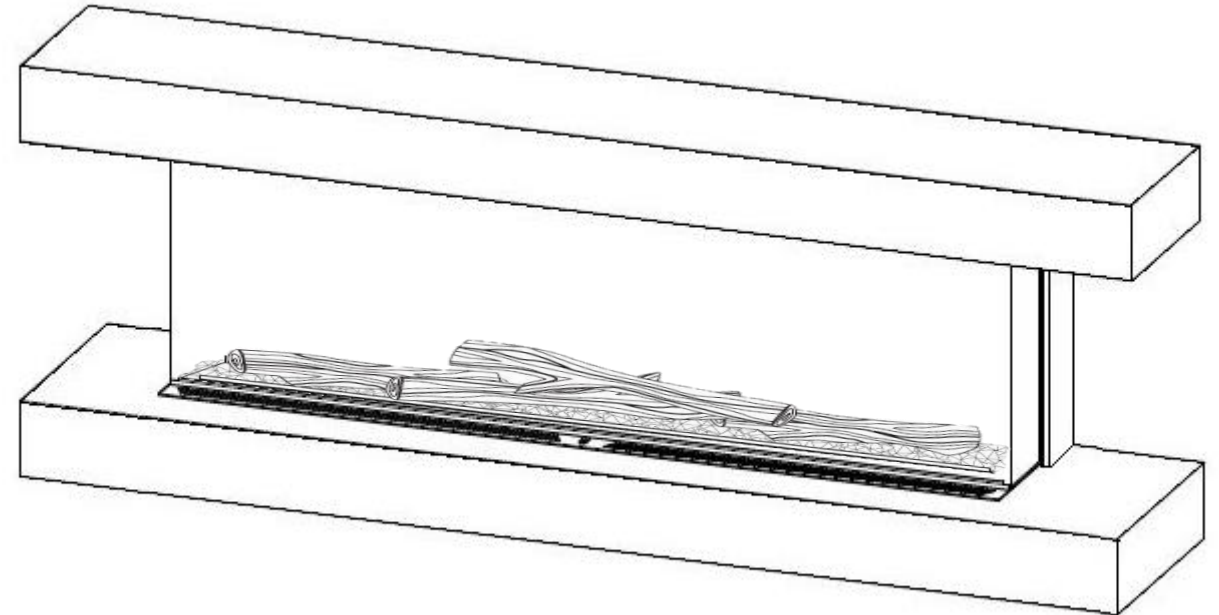

Figure 20
- Now locate your top cabinet. Remember it must have a notch on the inside to allow for power. Same steps performed as the bottom cabinet install with the addition of making sure to hide any cables, *see figure 20*.